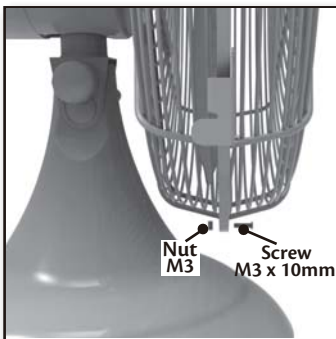

Figure 12
- Mount the front grill to the rear grill, tighten the grills using the grill locking screw and nut at the bottom of the grill. Figure 12.